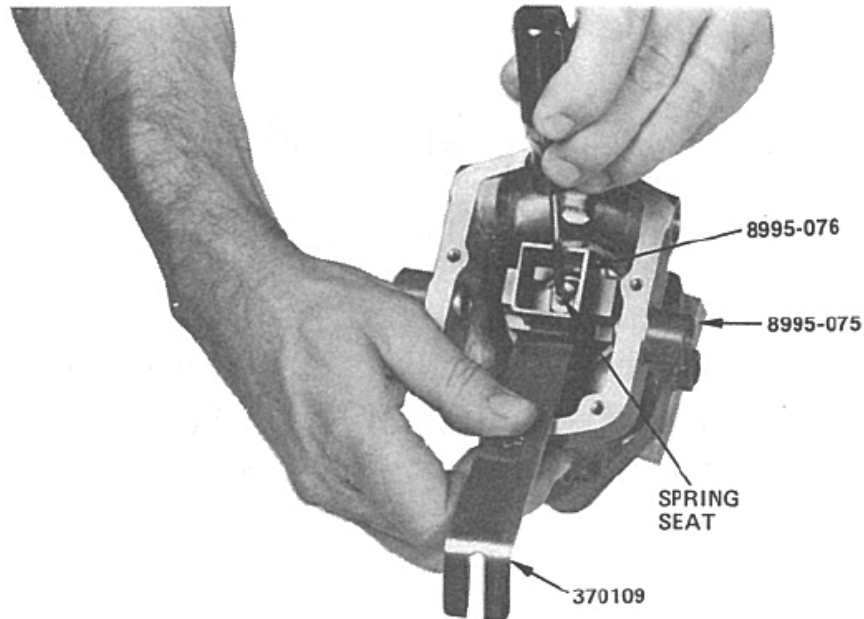
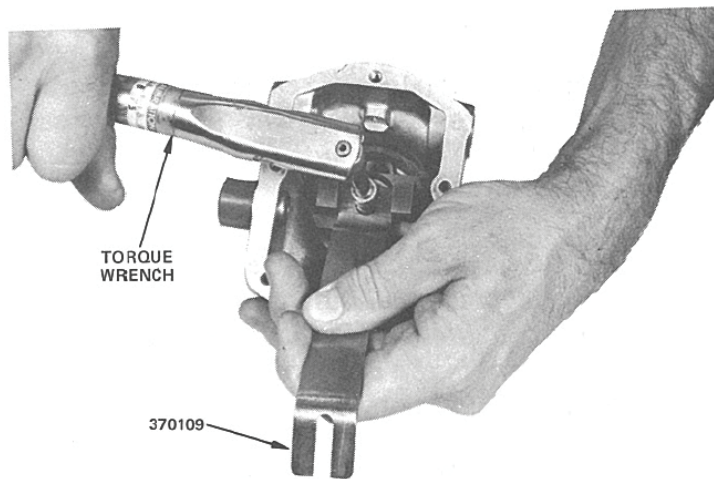

Figure 3-21. Centering the Pilot Valve Plunger
Figure 3-22. Torquing Lock Nut
If tools 8995-075 and 8995-076 (Figure 3-22) are not available, leave out 1/8" pipe plug (77), in line with pilot valve bushing (30), on governor base until after the pilot valve plunger is assembled and adjusted.
18. Center pilot valve plunger using tools shown in Figure 3-21.
- b. Press down on spring seat (40) with plunger wrench. This forces flyweights inward to hold block 8995-076 suspended between the flyweights.
- d. If the ballhead is the solid type (not spring driven—oil damped), turn the plunger an additional 3/4 turn clockwise. Turn the nut down onto spring seat and torque to 70 lb-in (7.9 N·m). See Figure 3-22.